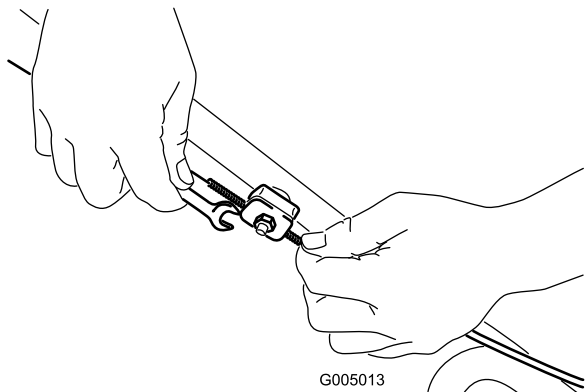

Figure 22
1. Loosen the cable support nut (Figure 22).